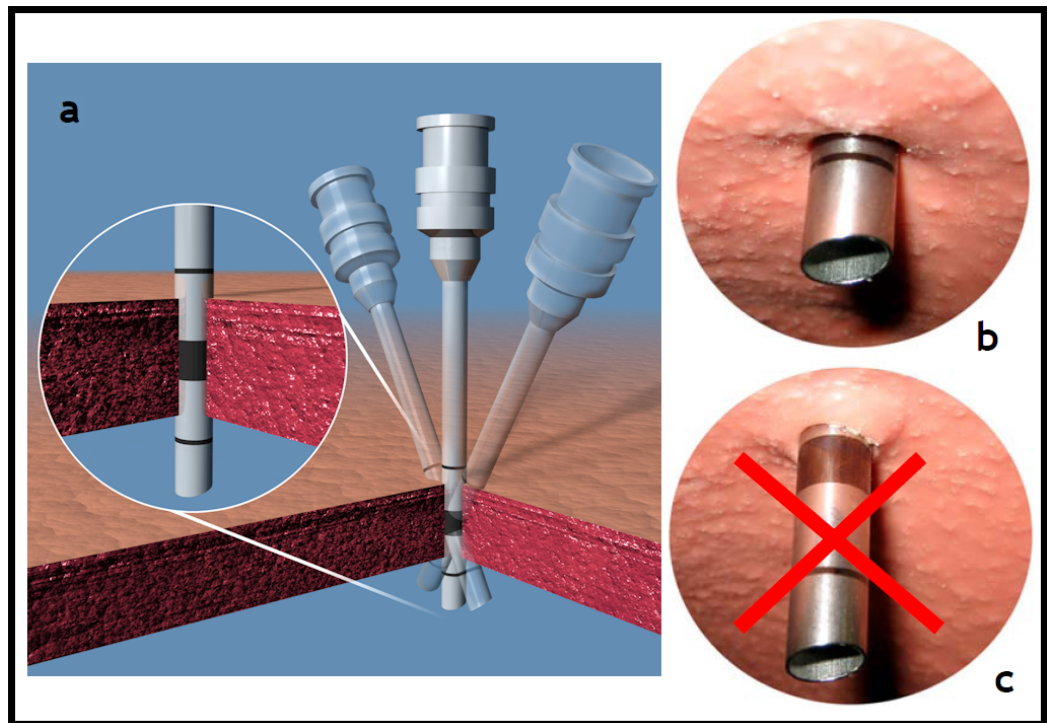

Figure 8.2 Proper placement of instrument cannula remote center
- To correctly place the remote center, the thick black line on the *da Vinci* cannula (which indicates the remote center) should be inserted within the boundaries of the patient's body wall. Correct placement allows instruments to pivot through the incision with less friction and greater precision, which reduces tissue trauma (Figure 8.2 a).
- Correct placement of the cannula should be verified by looking at the cannula tip with the endoscopic camera (cannulae should always be placed under endoscopic visualization). Only the first thin line at the distal cannula tip should be visible. This indicates that the remote center is placed correctly within the boundaries of the patient's body wall (Figure 8.2 b).
- If the thick black line on the cannula is seen in the endoscopic view, this means that the remote center is inserted too deeply. Moving the arms with the remote center incorrectly placed increases friction, reduces precision and increases tissue trauma at the port site (Figure 8.2 c).